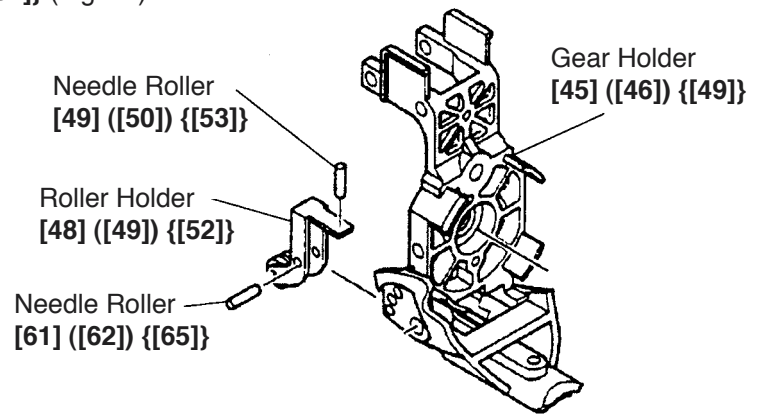

Fig. 11
(6) Disassembly of the Roller Holder [48] ([49]) {[52]} (Fig. 11)